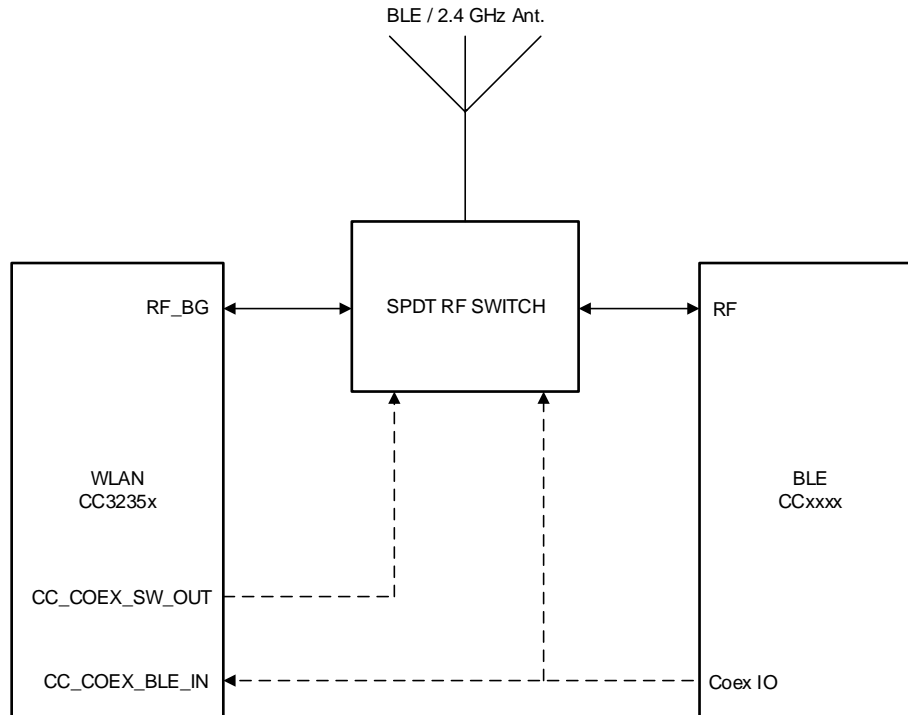

Figure 7-1. 2.4 GHz, Single-Antenna Coexistence Mode Block Diagram
- 2.4 GHz Wi-Fi band (see Figure 7-1)